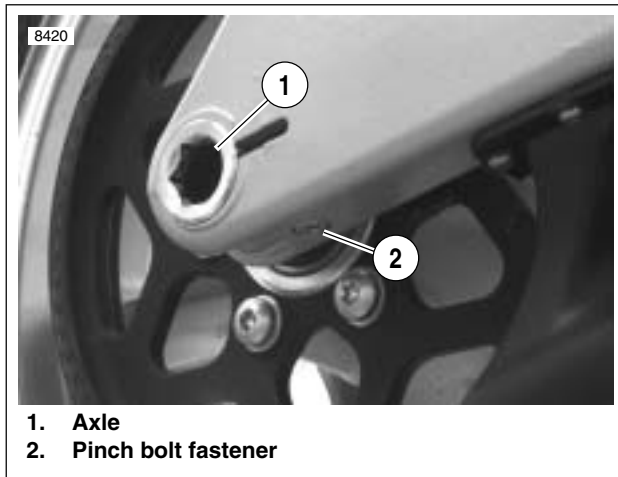

Figure 6-44. Rear Wheel Mounting, Right Side
1. See Figure 6-44. Loosen rear axle pinch fastener (2).
5. See Figure 6-44. Install and tighten rear axle (1) to 23-27 ft-lbs (31.2-36.6 Nm), back off two full turns and then retighten to 48-52 ft-lbs (65.1-70.5 Nm). See 6.6 DRIVE BELT SYSTEM.
6. Tighten rear axle pinch fastener (2) to 40-45 ft-lbs (54-61 Nm).